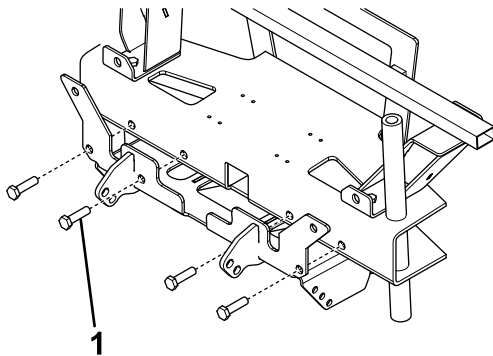

Figure 5
8. Loosely attach the plow skid plate to the front bumper using 4 bolts (M12 x 45 mm) as shown in Figure 5.